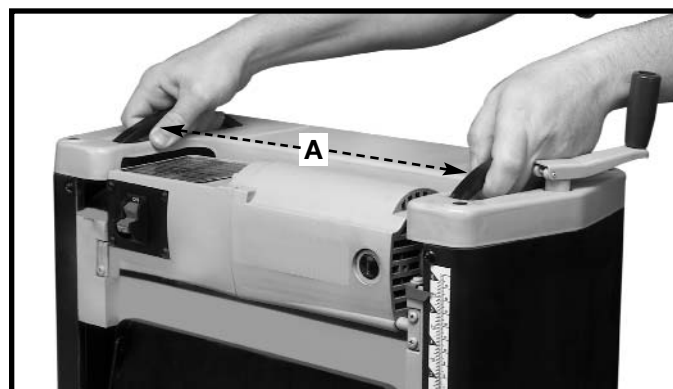

Fig. 23
Your planer is provided with two lifting straps (A) Fig. 23 for ease in transporting the planer.